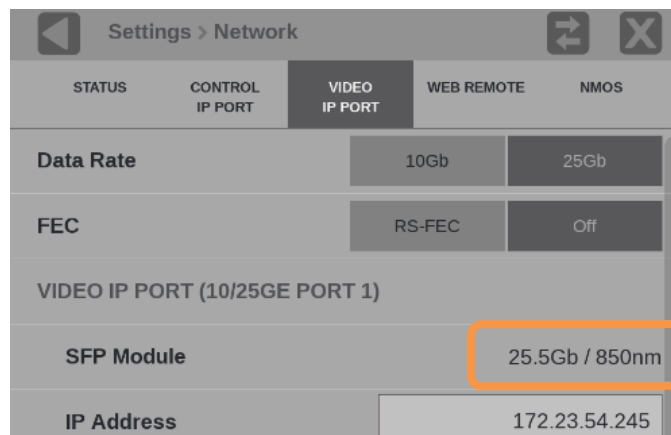

Figure 41: Readable MSA data from a 25Gb SFP module
- If the instrument can read the multi-source agreement (MSA) data from the installed SPF module, the data rate of the SFP module and the signal frequency is displayed in the SFP Module line (either 10Gb or 25Gb and 850nm or 1310nm). (See Figure 41.)